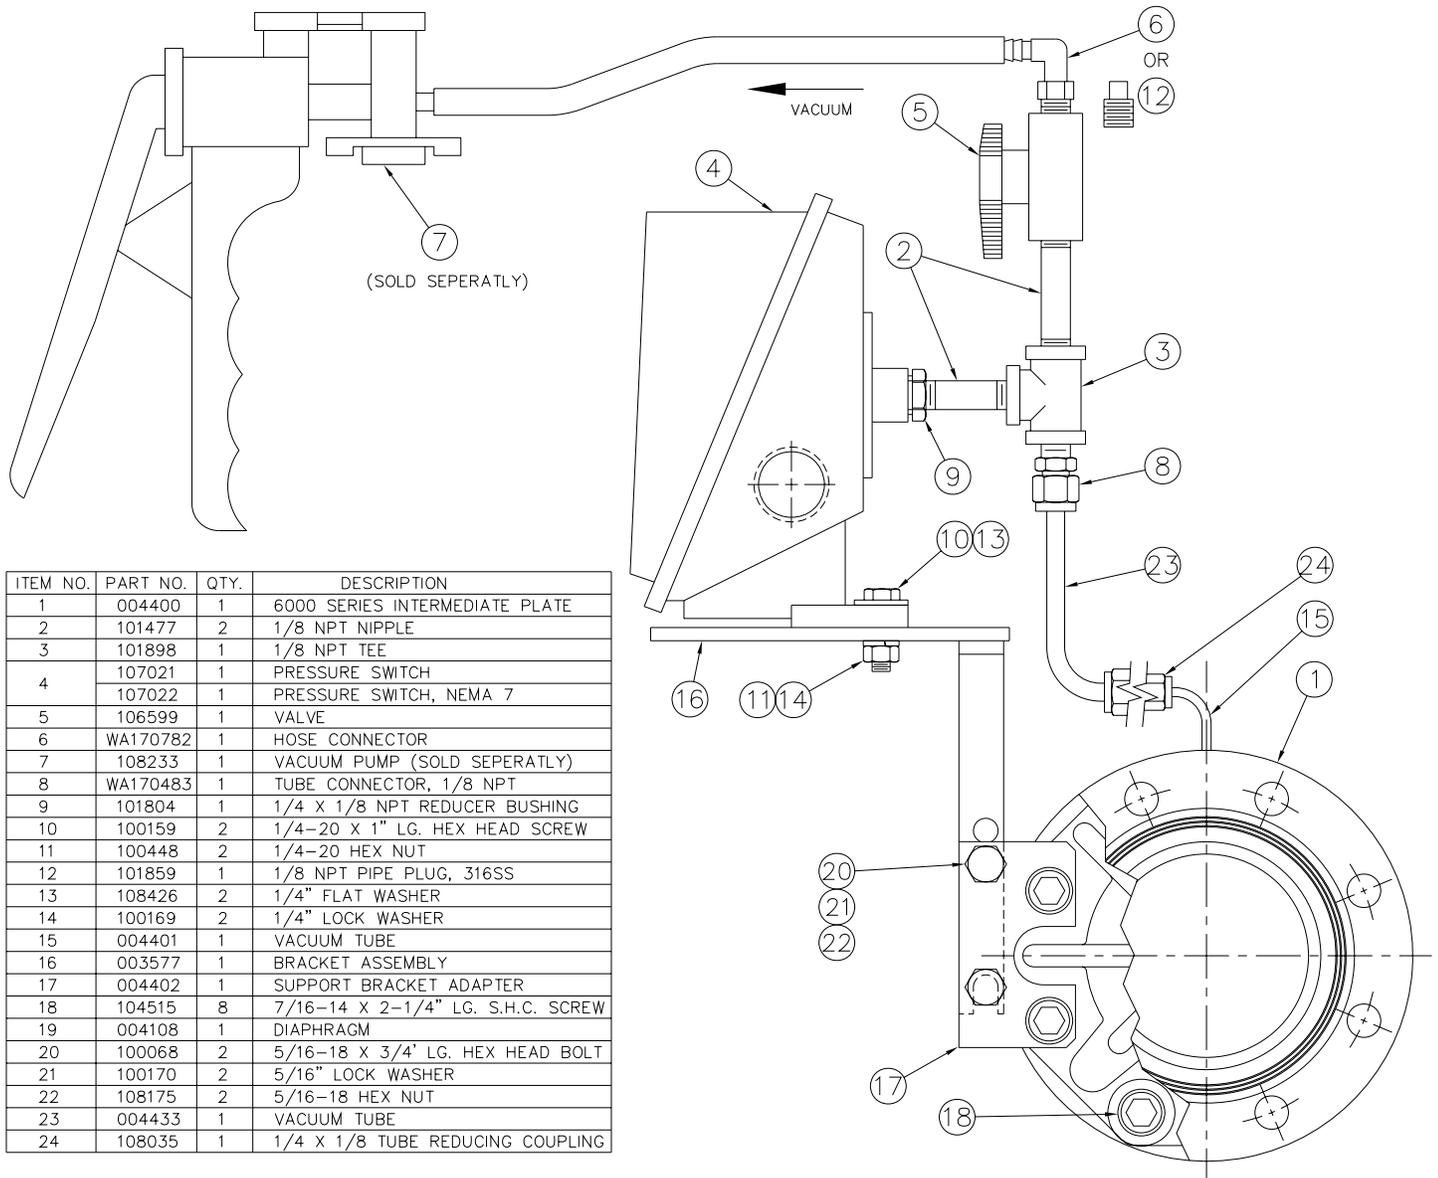

Figure 5
- 11.0.6 Open valve Item No. 5 (Figure 5).
- 11.0.7 To remove air, attach the vacuum pump with a hose connection Item No. 6 to the valve Item No. 5 (Figure 5). The intermediate space is evacuated to 3 psig for normal operating conditions.
- 11.0.8 Close valve Item No. 5 (Figure 5).
11.0.9 Remove the vacuum pump. Plug valve Item No. 5 with a 316SS pipe plug Item No. 12 (Figure 5)